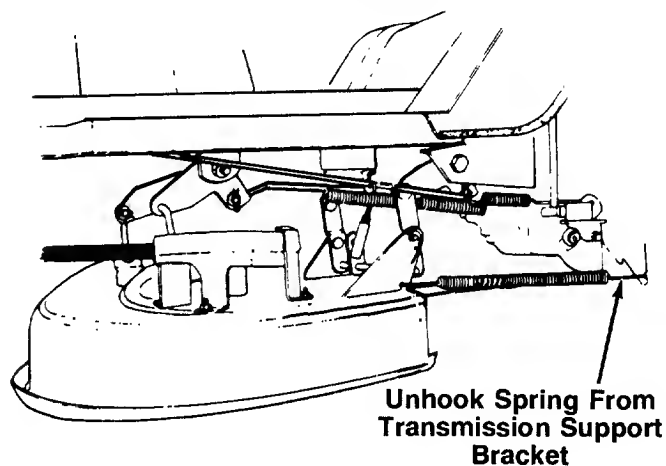

FIGURE 21.
5. Disconnect the spring from the left rear transmission support bracket. See figure 21.